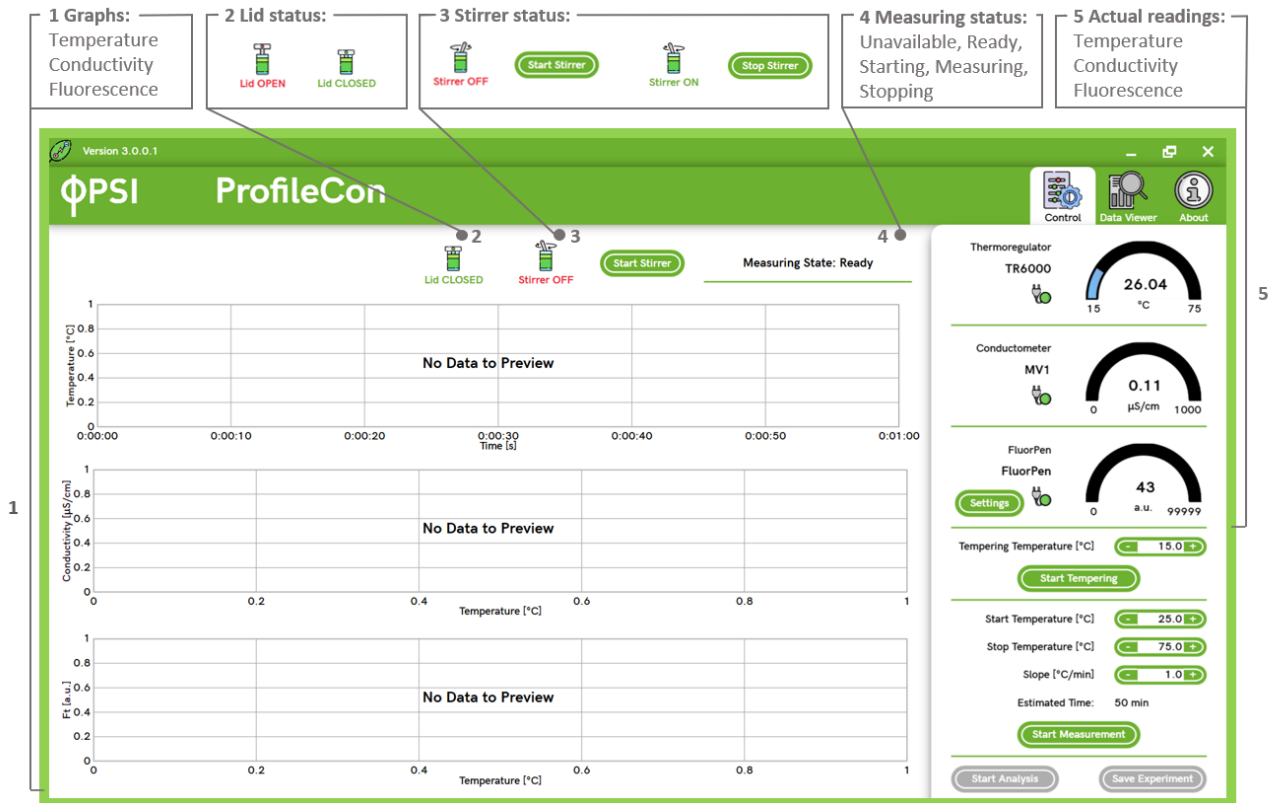

Fig. 6 The Control Tab of the ProfileCon Software before a measurement.
Fig. 6 shows how the Control tab should look like when the device is prepared for measurement:
- The device is properly connected (Fig. 5-2, Fig. 6)
- There is no warning (Fig. 6, Fig. 7-3) for set heating parameters